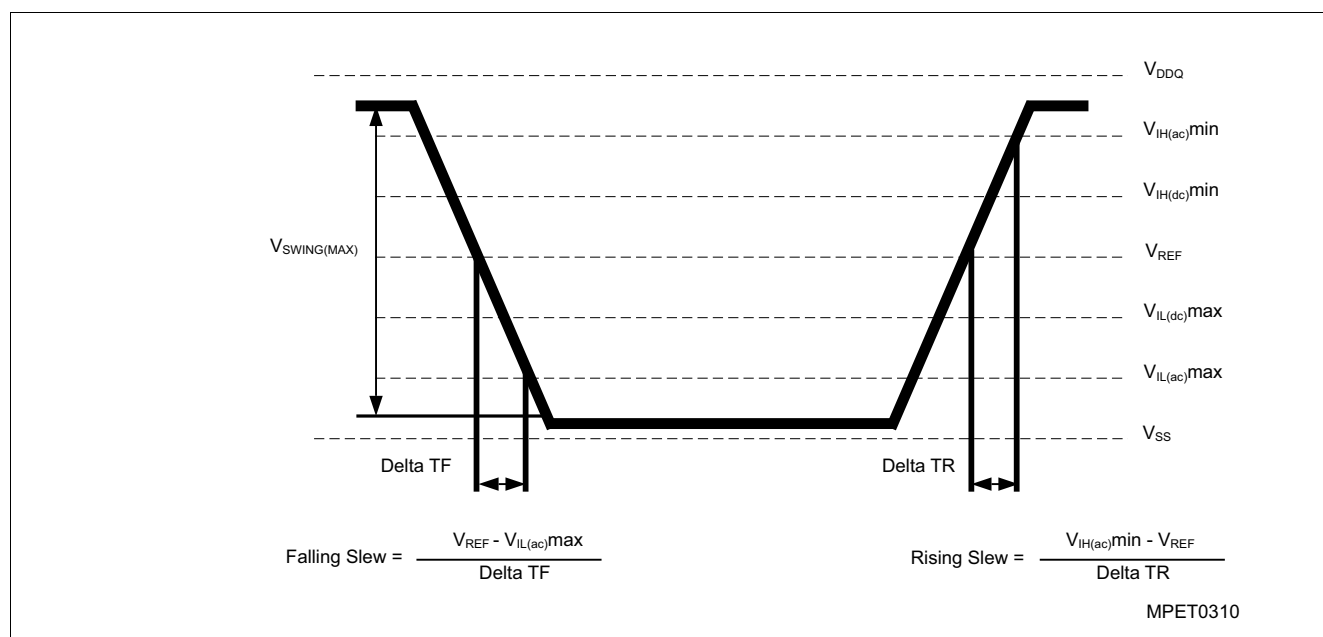

Figure 64 Single-ended AC Input Test Conditions Diagram
- 2) The input signal minimum Slew Rate is to be maintained over the range from $V_{IH(ac).MIN}$ to V_{REF} for rising edges and the range from V_{REF} to $V_{IL(ac).MAX}$ for falling edges as shown in Figure 64